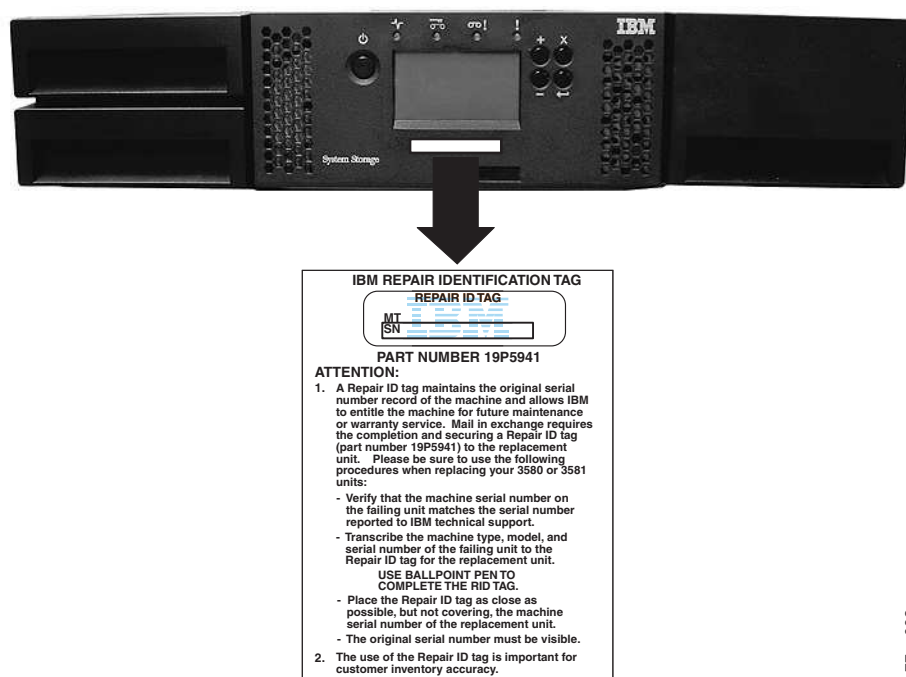

Figure 192. Proper placement of the Repair Identification (RID) Tag
- b. Apply the tag to the front of the new replacement library enclosure (as shown in Figure 192)